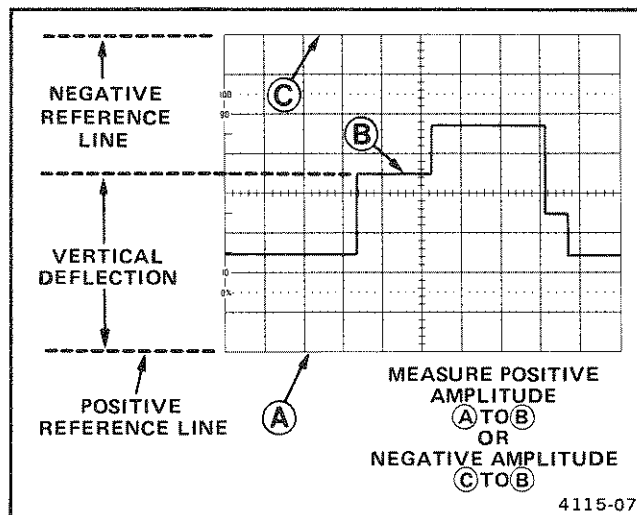

Fig. 4-1. Peak-to-peak waveform voltage.
6. Vertically position the display so that the negative peak of the waveform coincides with one of the horizontal graticule lines (see Figure 4-1, Point A).
7. Horizontally position the display so that one of the positive peaks coincides with the center vertical graticule line (see Figure 4-1, Point B).
8. Measure the vertical deflection from peak-to-peak (see Figure 4-1, Point A to Point B).
EXAMPLE: The measured peak-to-peak vertical deflection is 4.6 divisions (see Figure 4-1) with a VOLTS/DIV switch setting of 0.5, using a 10X probe.